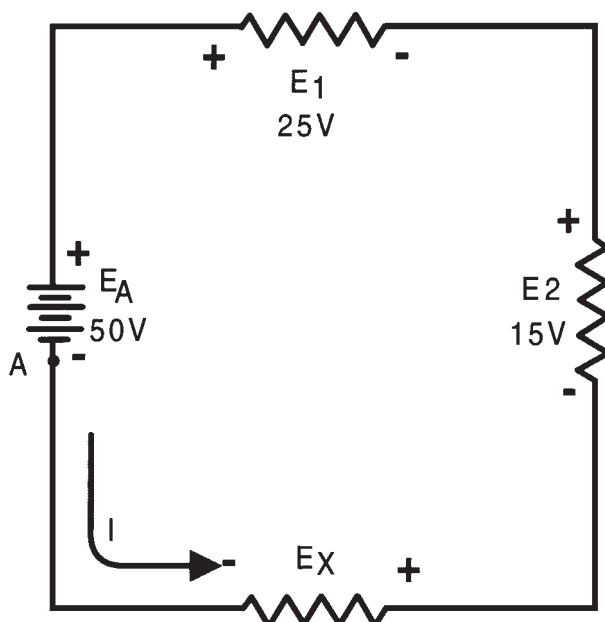

Figure 10.31 Determining unknown voltage in a series circuit.
- Draw a diagram such as the one shown in Fig. 10.31.
- Draw an arrow indicating the assumed direction of current flow. Again, see Fig. 10.31.
- Using the current direction arrow as made in Step 2, mark the polarity (– or +) at each end of each resistor and also on the terminals of the source. These markings are also shown in Fig. 10.31.